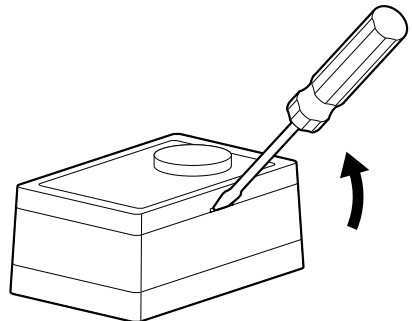

Figure 1
- 2) Remove the HA-1 cover by prying with a screwdriver in the notch on the bottom of the case (Figure 1).